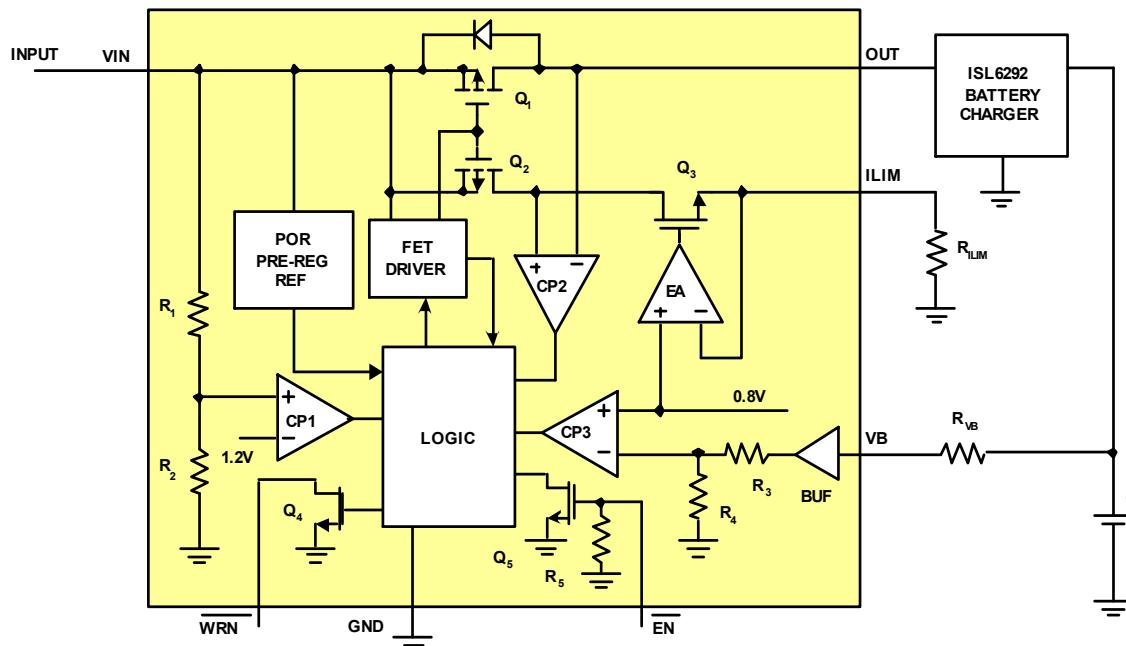
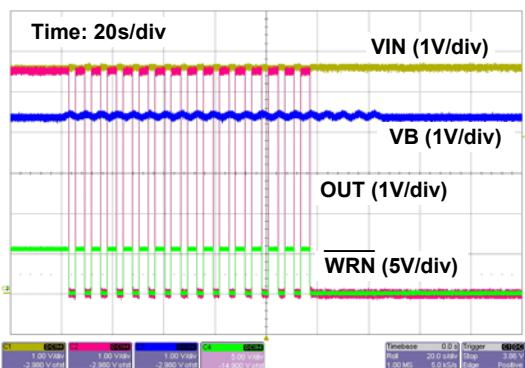

FIGURE 1. BLOCK DIAGRAM
FIGURE 7. BATTERY OVERVOLTAGE PROTECTION. THE IC IS LATCHED OFF AFTER 16 COUNTS OF PROTECTION. VB VOLTAGE VARIES BETWEEN 4.3V TO 4.5V
The input voltage is monitored by the comparator CP1 in the Block Diagram (Figure 1). CP1 has an accurate reference of 1.2V from the bandgap reference. The OVP threshold is set by the resistive divider consisting of R1 and R2. The
The battery voltage OVP is realized through the VB pin. The comparator CP3, as shown in Figure 1, monitors the VB pin and issues an overvoltage signal when the battery voltage exceeds the 4.4V battery OVP threshold. The threshold has 75mV built-in hysteresis. The comparator CP3 has a built-in 180µs blanking time to prevent any transient voltage from triggering the OVP. If the OVP situation still exists after the blanking time, the power PFET is turned off. The control logic contains a 4-bit binary counter that if the battery overvoltage event occurs 16 times, the power PFET is turned off permanently, as shown in Figure 7. Recycling the input power or toggling the enable (EN) input will reset the counter and restart the ISL9212A again.
The current in the power PFET is limited to prevent charging the battery with an excessive current. The current is sensed using the voltage drop across the power FET after the FET is turned on. The reference of the OCP is generated using a sensing FET Q2, as shown in Figure 1. The current in the sensing FET is forced to the value programmed by the ILIM pin. The size of the power FET Q1 is 31,250 times the size of the sensing FET. Therefore, when the current in the power FET is 31,250 times the current in the sensing FET, the drain voltage of the power FET falls below that of the sensing FET. The comparator CP2 then outputs a signal to turn off the power FET.